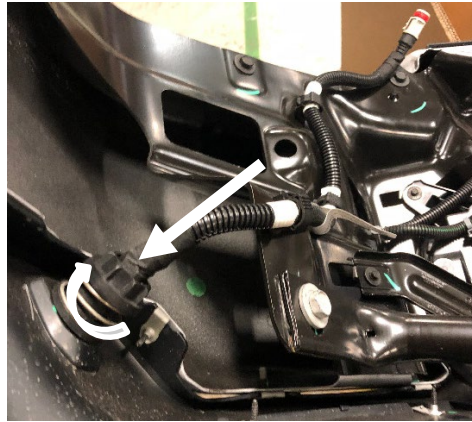

Figure 17
16. If equipped, remove the engine heater plug located on the driver side of the truck bumper. Push the bumper in against the spring and turn counterclockwise, once unclipped pull out from the bumper. (Figure 17)